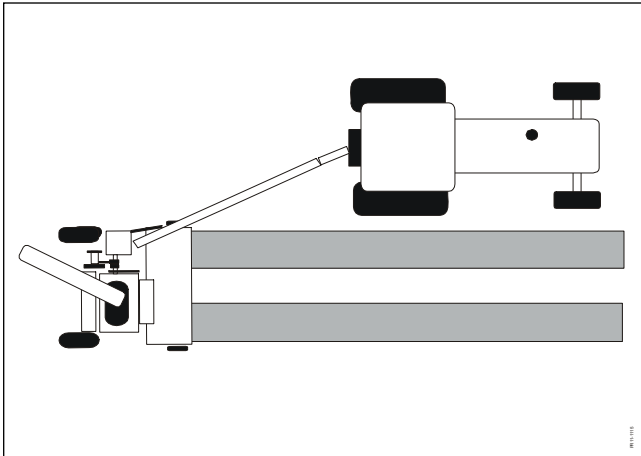

Fig. 5-7
- Fig. 5-7** 1) The chopper picks up grass beside the tractor, working offset. The machine can pick up wide single swaths and double swaths, which are very suitable for the chopper. A good driving technique when unloading into a trailer at the right-hand side of the chopper.